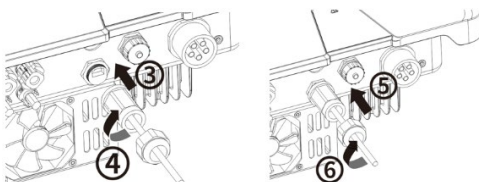

Fig. 20 (left): Connect the network cable
- 4 Plug the network cable into COM1 or COM2 (see Fig. 20. Note the sequence and directions of the arrows)
- 5 Tighten the thread sleeve, then tighten the forcing nut at the end (pos. 5 and 6).